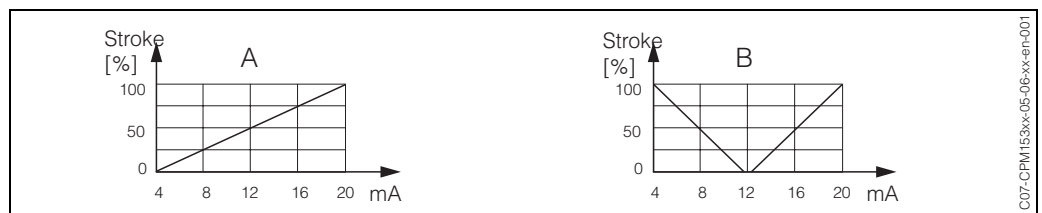

Fig. 19: A: Stroke diagram for a control valve
- With a *two-sided* process, the complete actuating variable range from -100% ... +100% is represented on the given current range. An actuating variable of 0% leads to a current of 10 mA (at 0 ... 20 mA) or 12 mA (at 4 ... 20 mA) (see Fig. 19).